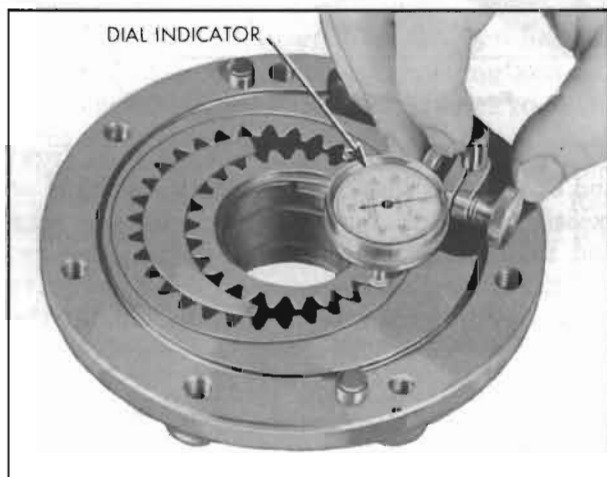

Figure 5-74—Checking End Clearance of Gears in Pump Body
6. Check pump gear end clearance by mounting dial indicator on support, J-1013. Place indicator support on pump body so that the indicator button bears on body and set indicator at zero. Then rotate the support and indicator, keeping the support on the pump body and indicate each pump gear. The indicator readings for the front pump should be .001 to .0025 and rear pump .001 to .002. See Figure 5-74.